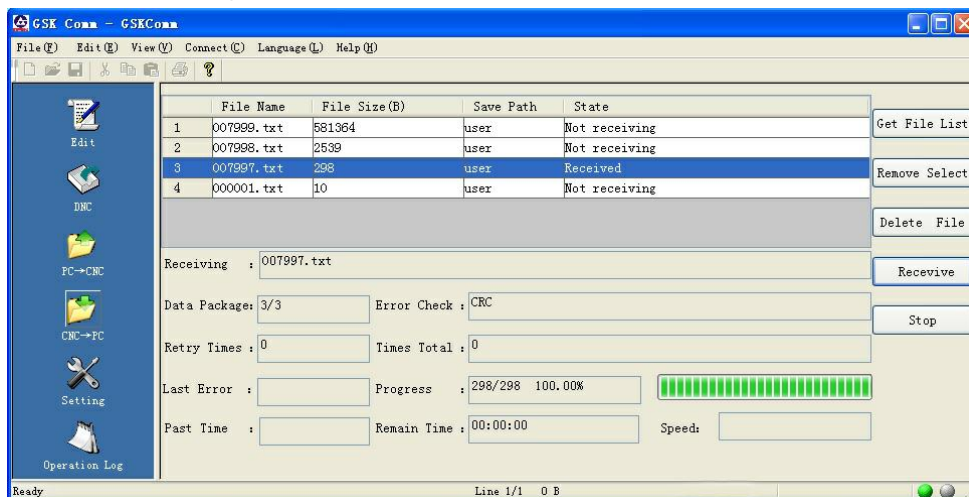

Fig.11-2-2-3
5. After a file received, its list item status bar presents “received”, as shown in Fig.11-2-2-4.